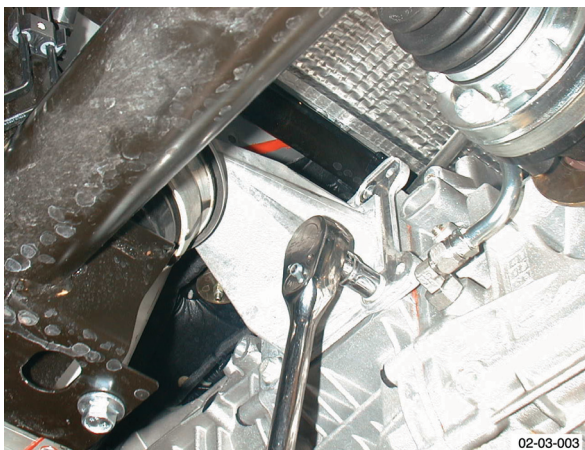

Fig. 2
8. Remove and discard bolts (x4), mounting bracket to transaxle (see Fig. 2).